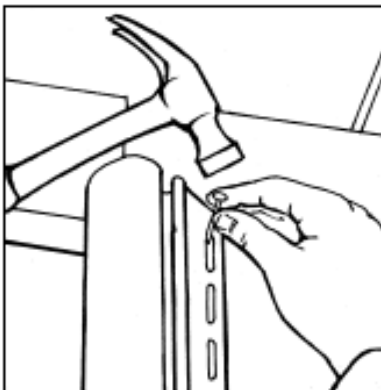

Figure 2
- 2) Install 3 $\frac{1}{2}$ " or 5" lineal into the connector by starting at the top or the bottom and pushing the locking leg of the lineal into the channel of the corner connector. The lineal must also be $\frac{1}{4}$ " from the eave or soffit. Nail the lineals in the same manner as the connector (Figure 2). Repeat on other side. *Be sure not to nail tight. Hang the lineals and nail loosely.*